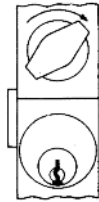

Figure 3-2
- C. Turn the thumb turn clockwise to the stop position. Observe the latch being retracted to unlock the door (**See Figure 3-2**). The lock will lock automatically when the thumb turn is released.